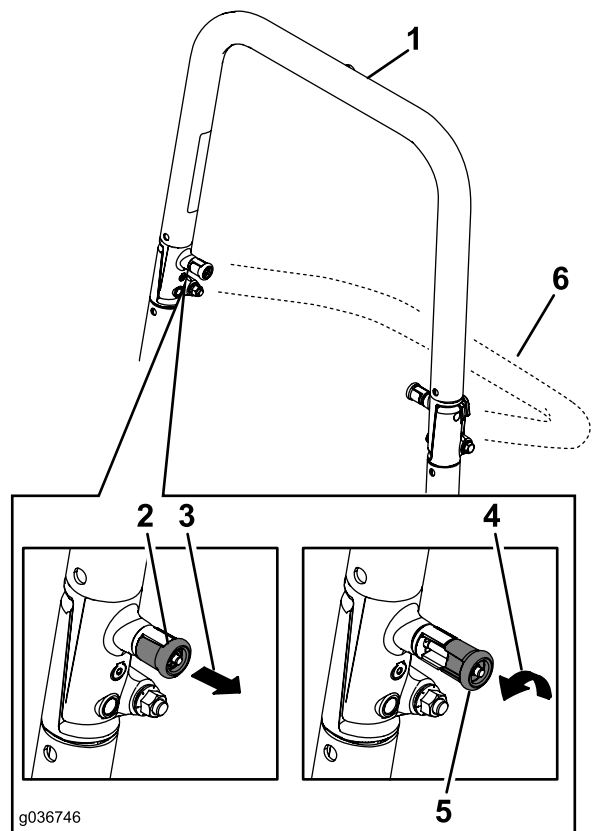

Figure 8
2. Pull both knobs out and rotate them 90 degrees so they are not engaged (Figure 8).
3. Lower the roll bar to the down position (Figure 8).
4. To raise the roll bar, raise the roll bar to the operating position and rotate the knobs until they move partially into the grooves (Figure 8).
5. Raise the roll bar to the full upright position while pushing on the upper roll bar so that the pins snap into position when the holes align with the pins (Figure 8).